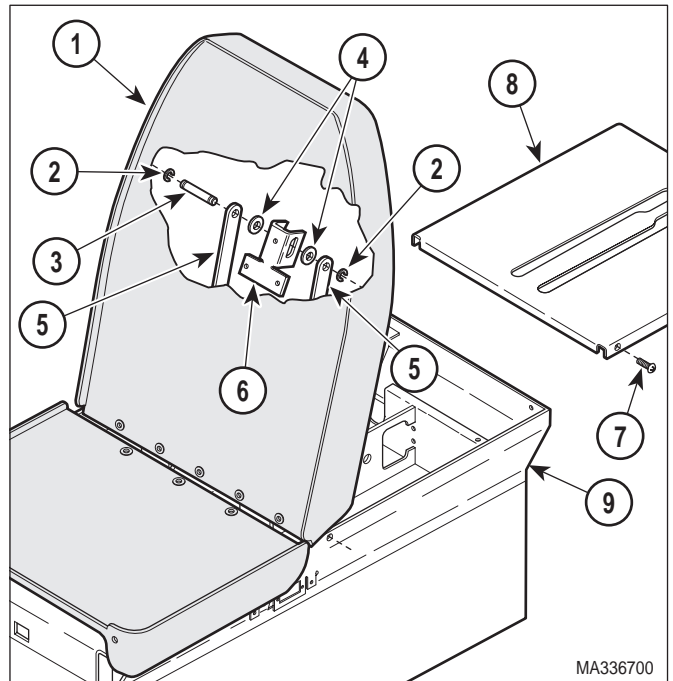
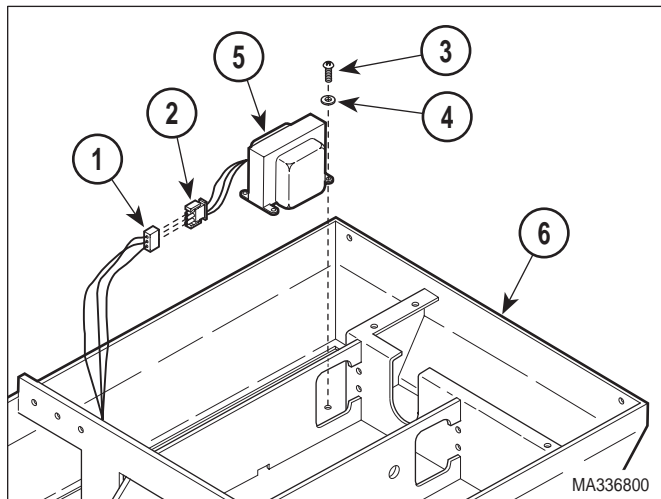

Figure 4-14. Transformer Access
Figure 4-15. Transformer Removal / Installation
- (3) While supporting back section (1, Figure 4-14), remove two e-rings (2), clevis pin (3), two bearing washers (4), and link bars (5) from back pivot bracket (6).
- (4) Carefully fold the back section (1) over onto the seat section.
- (5) Remove four screws (7) and back cover (8) from upper wrap weldment (9).
- (6) Disconnect wire harness (1, Figure 4-15) from transformer wire harness (2).
- (7) Remove cable ties as necessary.
- (8) Remove four screws (3), lockwashers (4), and transformer (5) from upper wrap weldment (6).
- (1) Install transformer (5, Figure 4-15) on upper wrap weldment (6) and secure with four lockwashers (4) and screws (3).
- (2) Connect transformer wire harness (2) to wire harness (1).
- (3) Secure wires as necessary with cable tie(s).
- (4) Install back cover (8, Figure 4-14) on upper wrap weldment (9) and secure with four screws (7).
- (5) Lower back section (1) down; then secure two link bars (5) to back pivot bracket (6) with two bearing washers (4), clevis pin (3), and two e-rings (2).
- (6) Plug table power cord into wall outlet.